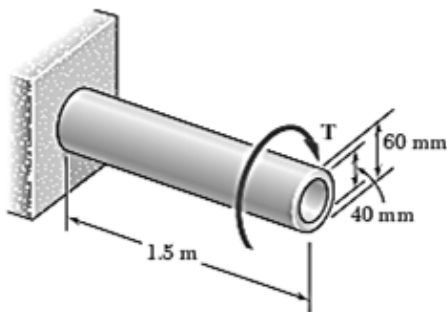

Fig. 2
2. A hollow cylindrical steel shaft is 1.5 m long and has inner and outer diameters respectively equal to 40 and 60 mm (Fig. 2). (a) What is the largest torque that can be applied to the shaft if the shearing stress is not to exceed 120 MPa? (b) What is the corresponding minimum value of the shearing stress in the shaft?